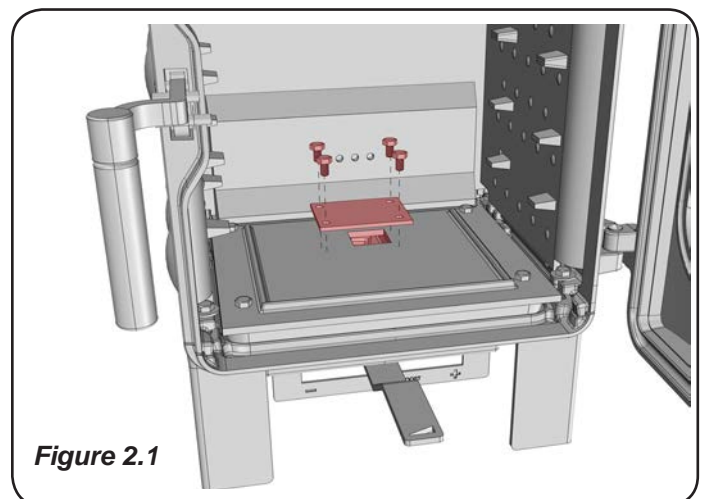

Figure 2.1
2) Check the smooth operation of the vent controls - if there is friction or a non-smooth movement or jamming, it is possible there is residue from steel shot blasting in the vent mechanism - in this case, remove the grate, pizza shelf and ashpan from the inside of the stove. On the floor of the stove you will see a plate held in place with four fixings. remove this for inspection access as it is above the vent mechanism. Insert a vacuum cleaner nozzle into the inspection access whilst swiftly moving the vent control left and right several times. (**Figure 2.1**)